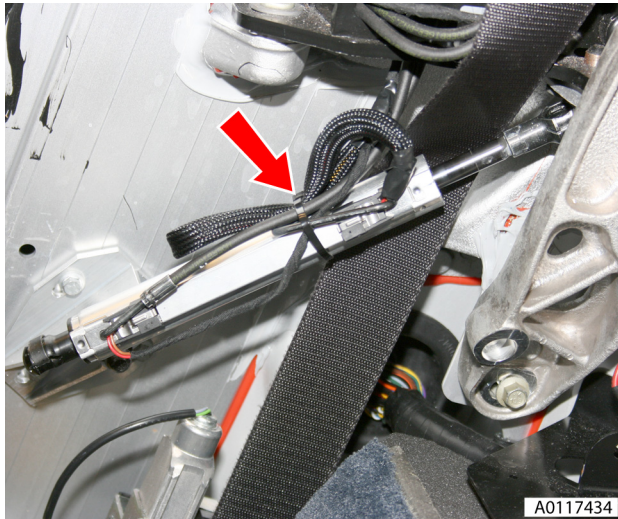

Fig. 2
5. Cut cable ties securing pipes and wires to cylinder (see Fig. 2).